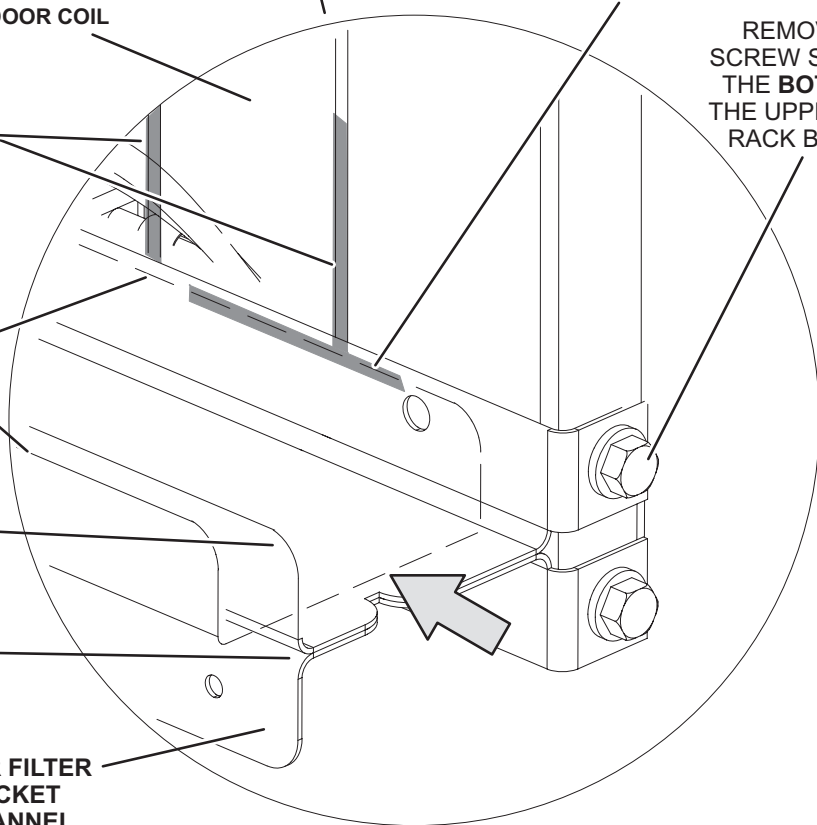

FIGURE 35
The optional, brush-type ionizer produces positive and negative ions to clean air and reduce airborne contaminants. The ionizer was designed to be low maintenance. The device should be checked semi-annually to confirm the brushes are clean for maximum output. The ionizer is located behind the filters. See FIGURE 35.
- 1 - Remove filters, screws securing the top and bottom of the upper filter bracket, and the wire ties the screws hold in place. See FIGURE 35.